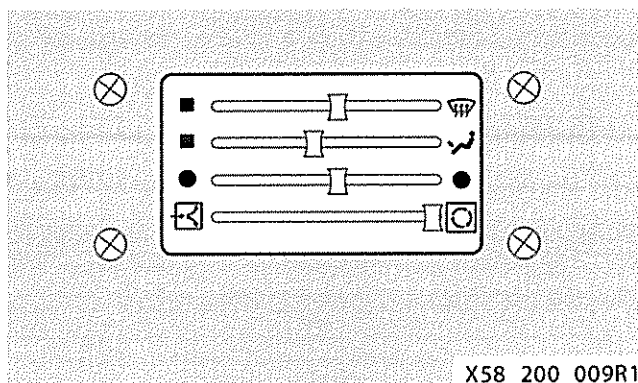

Fig 9 Recirculated air
- 23 Refer to Fig 9. To recirculate the air, proceed as follows: